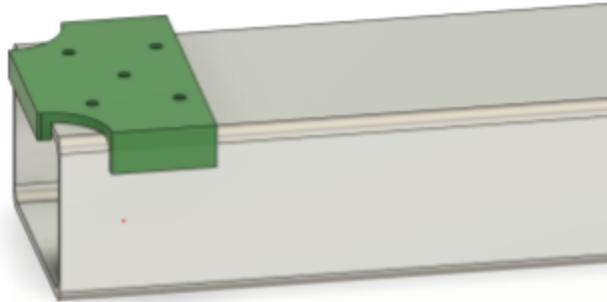

Figure 2.1
1. Position Assembly Tool #2 on the top face of one beam with the number facing down and all tabs securely holding position as shown in Figure 2.1.